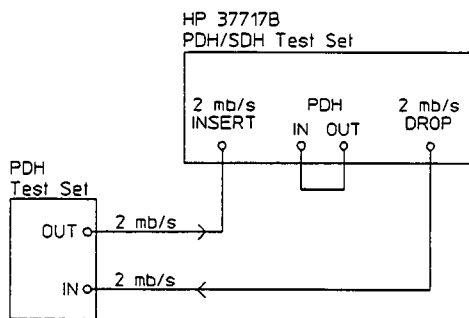

Figure 3-25. External 2 Mb/s Mux/Demux
3. Connect the equipment as shown in Figure 3-25.